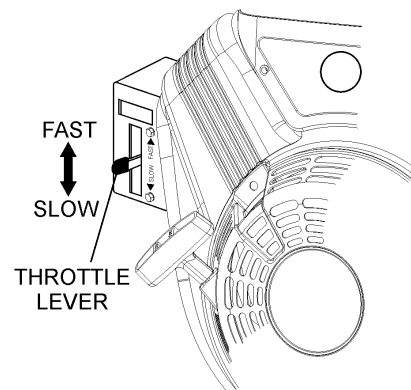

Figure 14. Throttle Lever
6. Move the throttle lever halfway between the **FAST** and **SLOW** position (Figure 14) for starting.
- Place the engine's throttle lever (Figure 14) in the **slow** (idle) position.
3. Place the engine's throttle control (Figure 14) in the **SLOW** (idle) position.
3. Place the throttle lever (Figure 14) in the slow position. Idle engine 3-5 minutes for gradual cooling.